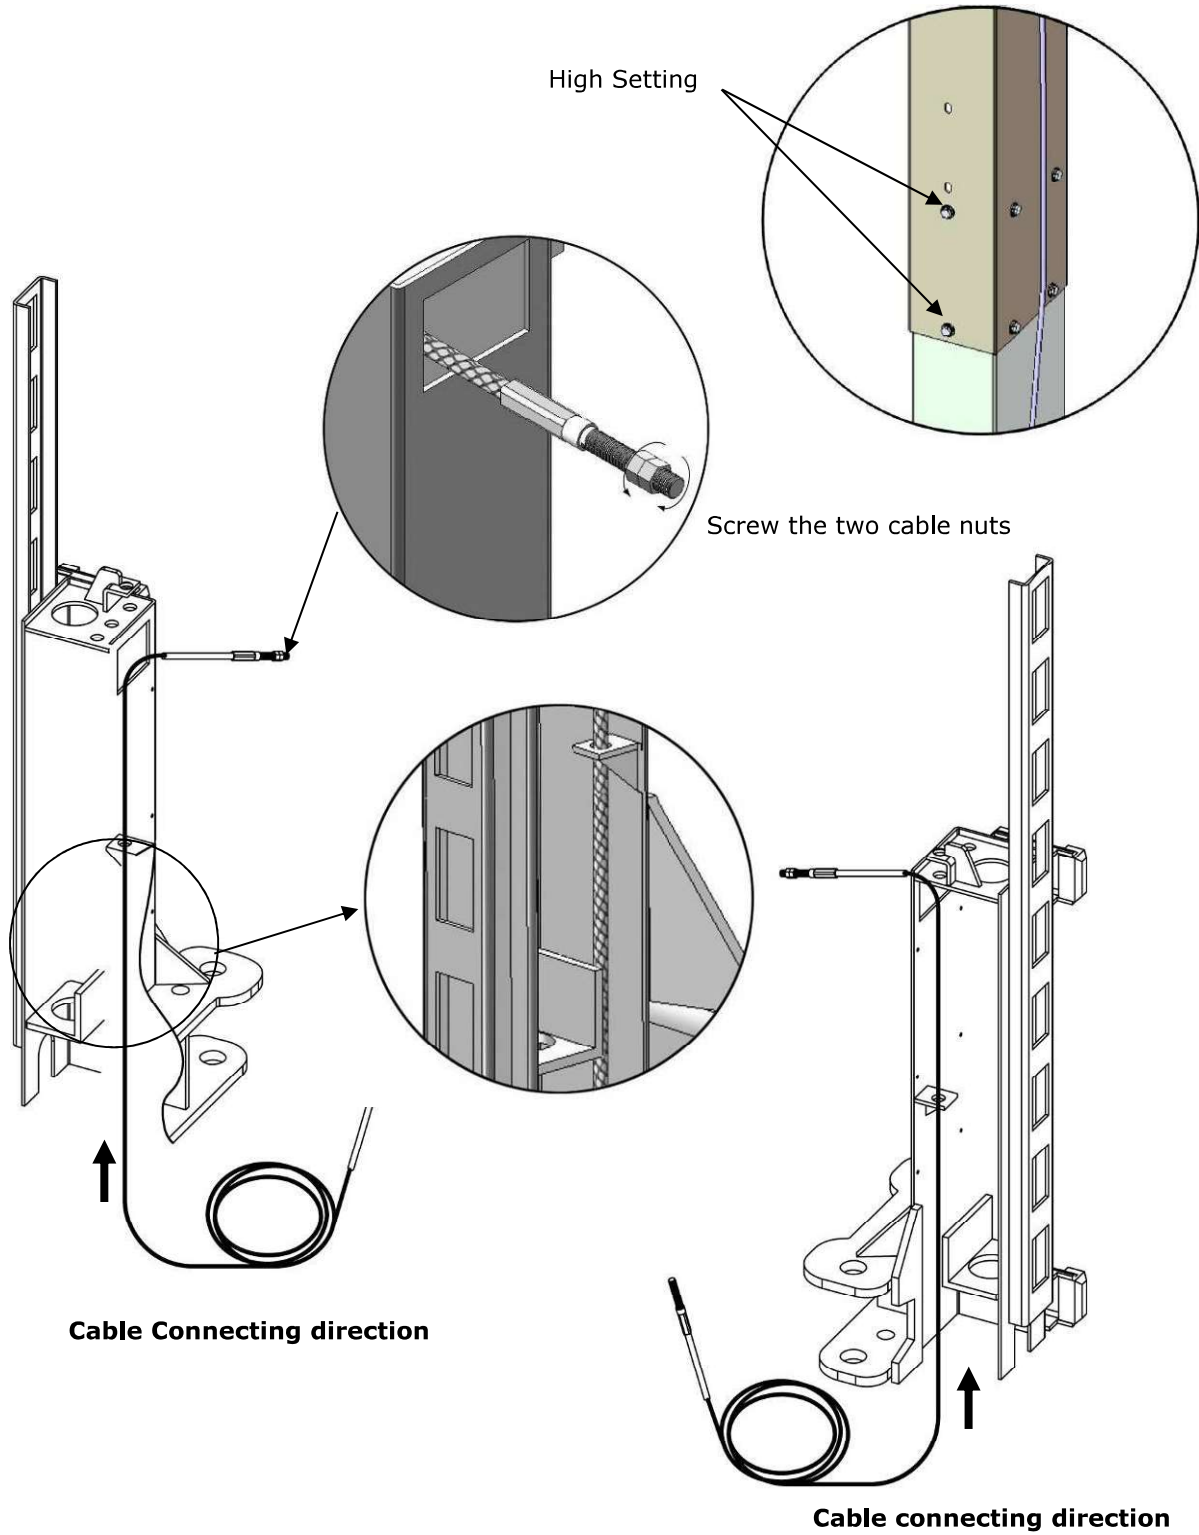

Fig. 24
2.1. Cable pass through from the bottom of the carriages and be pulled out from the open of carriages, then screw the two cable nuts (See Fig. 24).